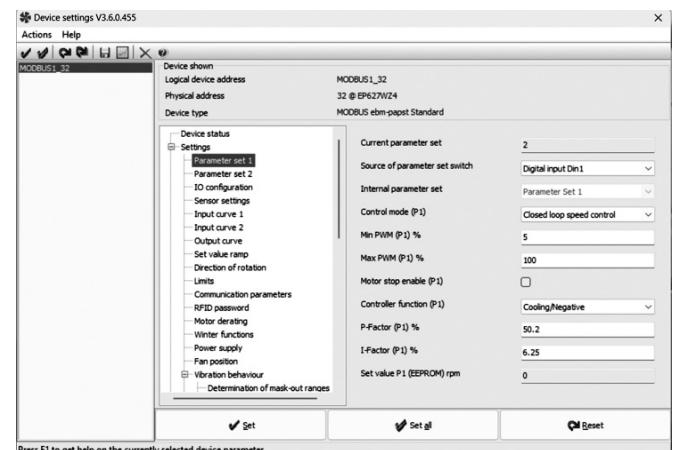

Fig. 22 – EC-Control Parameter Set 1
- Set the following parameters to match Fig. 22. **Current Parameter Set** will not be changeable, this is only to indicate what parameter set the fan is currently in.